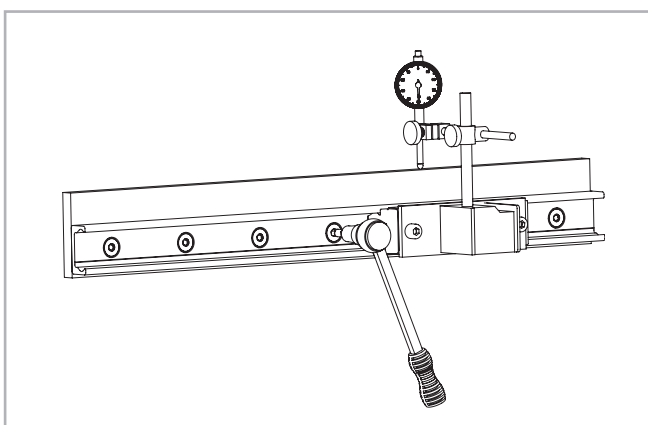

Fig. 103
(2) Install a dial indicator so that the offset of the rail to a reference line can be measured. Now position the slider in the center of the rail and set the dial indicator to zero. Move the slider back and forth between each two hole spacings and carefully align the rail. Fasten the three center screws of this area now with the the specified tightening torque, see pg. fig. 103.
(3) Now position the slider on one end of the rail and carefully align the rail to zero on the dial indicator.